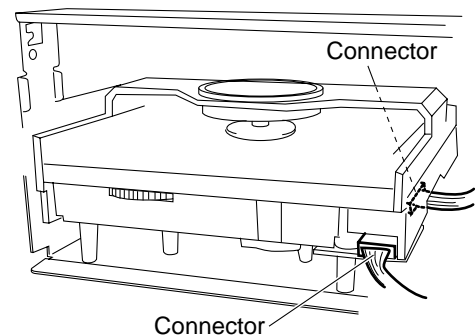

Fig. 7
- Disconnect 2 connectors. (Fig. 7)